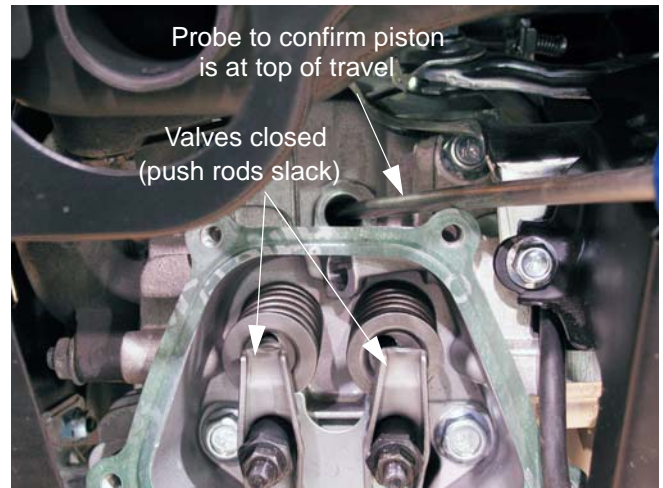

Figure 1.10
7. Confirm that the piston is at Top-Dead-Center on the compression stroke. See Figure 1.10.